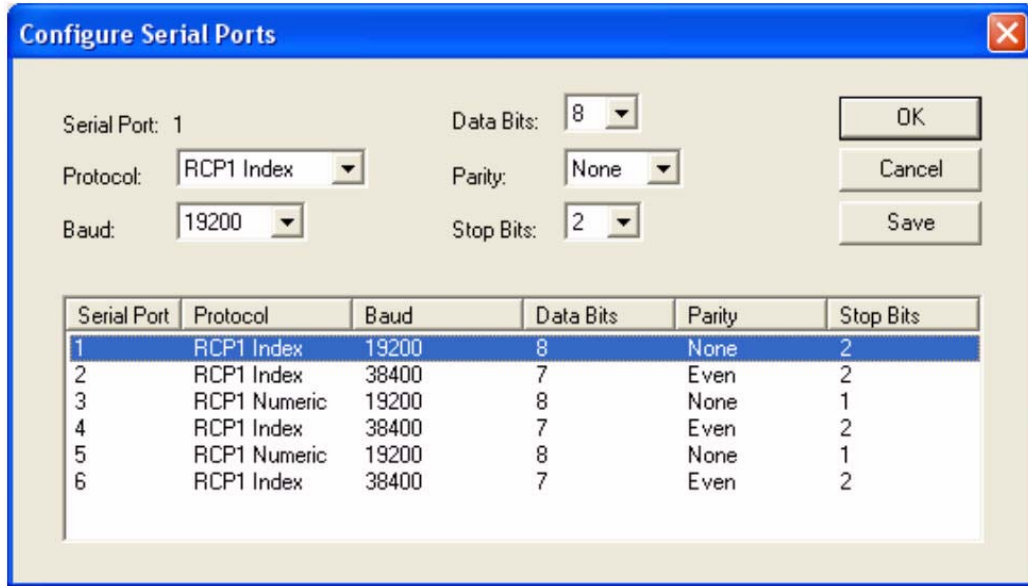

Figure 2-1. Serial Ports window
3. In the *Salvo* window (Figure 2-1) check the desired levels and salvo number. Then drag the Inputs and Outputs to the table for that salvo.